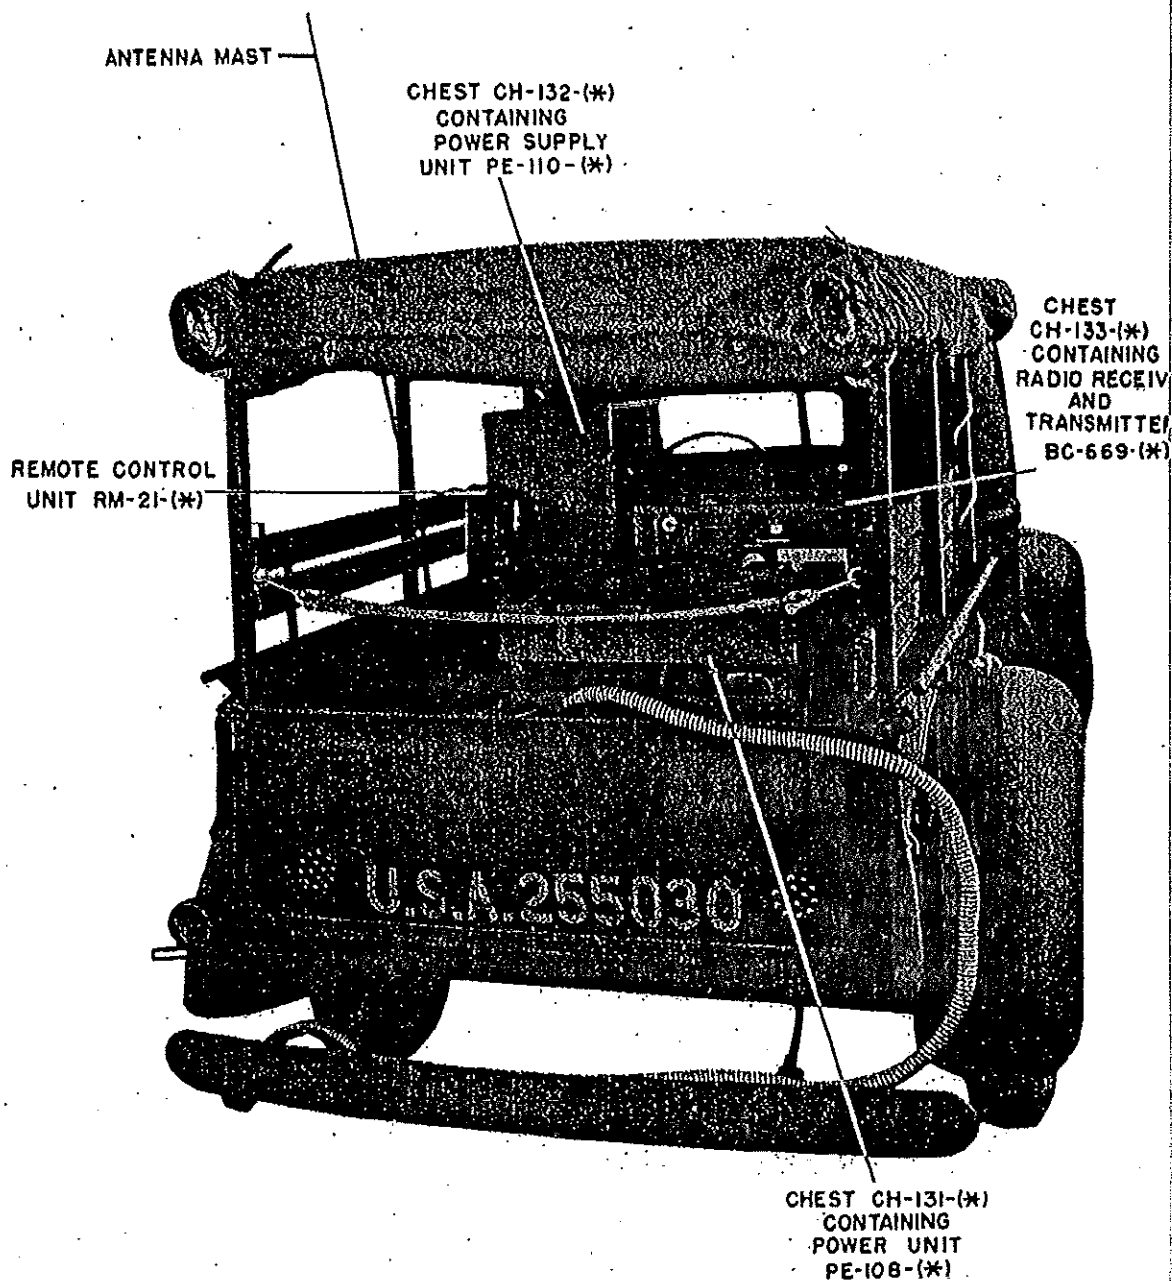

Fig. 11 — Radio Set SCR-543(*) Installed in 1/2 Ton Pick-up Truck.
- j. (1) If you want to operate Remote Control Unit RM-21-(*) at a distance from the transmitter, remove Cord CD-513-(*) from Chest CH-132-(*) and insert it between the cord attached to Remote Control Unit RM-21-(*) and receptacle PL₈ on Radio Receiver and Transmitter BC-669-(*).
- (2) In the event that Radio Frequency potentials (indicated by sparks, shocks or burns) should appear on Remote Control Unit RM-21-(*) when Cord CD-513-(*) is used, ground the remote control unit as follows:—
14. INSTALLATION IN ½ TON PICK-UP TRUCK (See Figure 11).—
- f. (1) Drill four holes in the seat-back rails directly behind Chest CH-132-(*). Use Mast Bracket MP-50 as template. In SCR-543-A use Mast Bracket MP-50 having removable wing nuts. This mast bracket is not supplied with SCR-543-B, C and will have to be obtained from the supply depot.